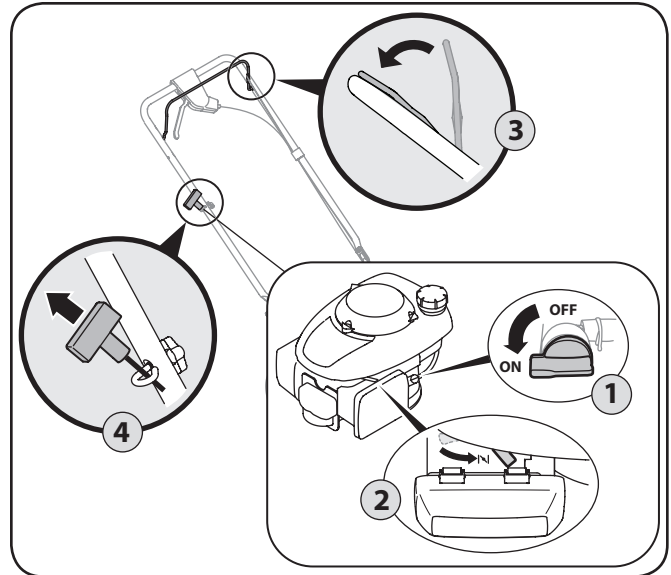

Figure 5-1
1. Place the fuel valve lever found on the left side of the engine into the ON (OPEN) position. See Fig. 5-1.
4. Holding these two handles together firmly, grasp recoil starter handle and pull rope out with a rapid, continuous, full arm stroke. See Fig. 5-1. Keeping a firm grip on the starter handle let the rope rewind slowly. Repeat until engine cranks. Let the rope rewind each time slowly.